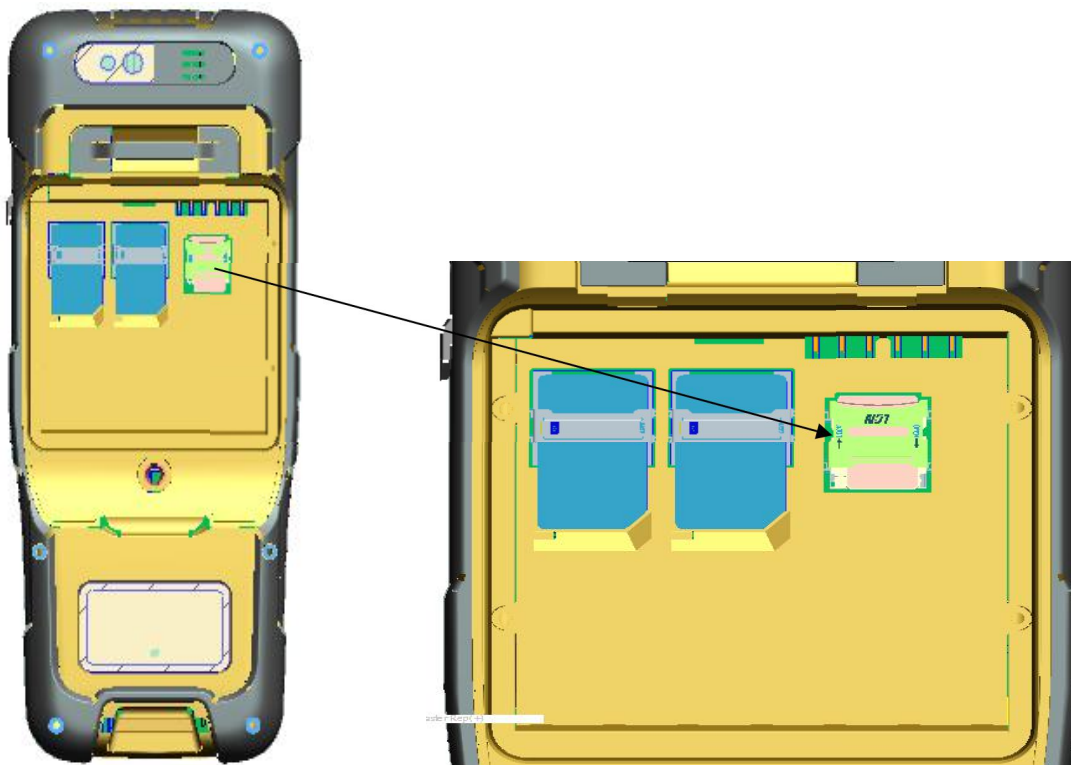

Figure 6.8 Insert T-Flash card
4. **Insert T-Flash card:** Open T-Flash card holder and insert T-Flash card into the slot, then close T-Flash card holder as shown in Figure 6.8.